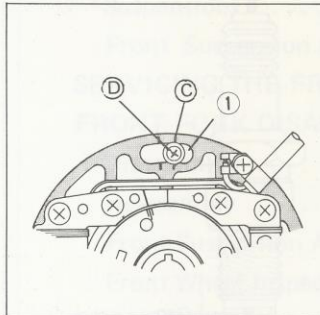

Fig. 120. Timing marks
- The stator has a line mark designated as © in Figs. 120, 121 and 122. This mark is at the slot ① in which the screw ④ is located. Turn the stator to bring mark © to screw ④, and adjust the stator to point this mark to the center of screw ④.
- When securing the stator by tightening the screws, make sure that line mark © remains accurately centered to screw ④. The position of the rotor has nothing to do with this adjustment.